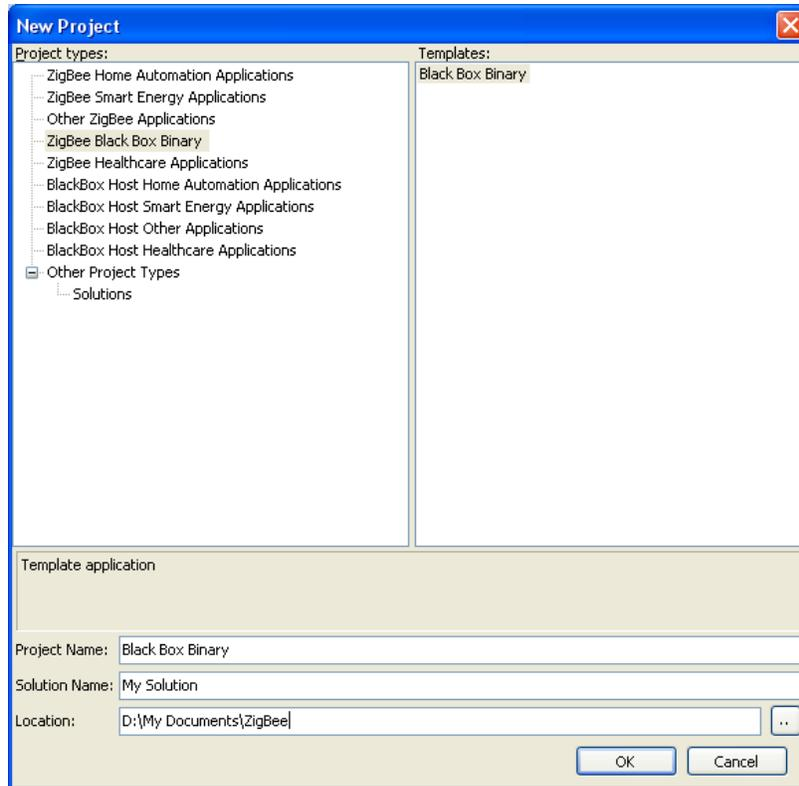

Figure 8-1. BeeKit New Project Window
3. From the menu, select File->New Project... The New Project window appears as shown in Figure 8-1.
4. From the left side of the New Project, select ZigBee Black Box Binary, as shown in Figure 8-1.